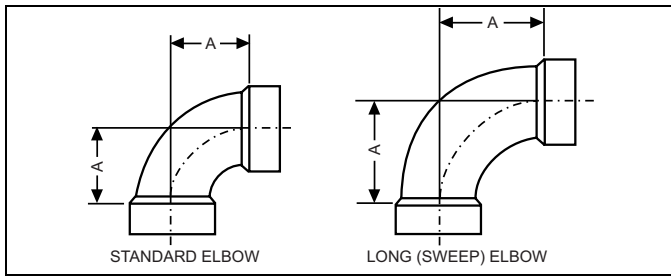

FIGURE 25: Elbow Dimensions
1. Drain, waste, and vent (DWV) elbows with a long radius (sweep) are recommended. Standard DWV elbows may be used, but since they have a longer equivalent length, they will reduce the total length of pipe that will be allowed. Short radius (plumbing or pressure) elbows are not allowed for venting. The standard dimensions of the acceptable elbows are shown in Figure 25.
Elbow	"A" Dimension (Illustrated in Figure 25)